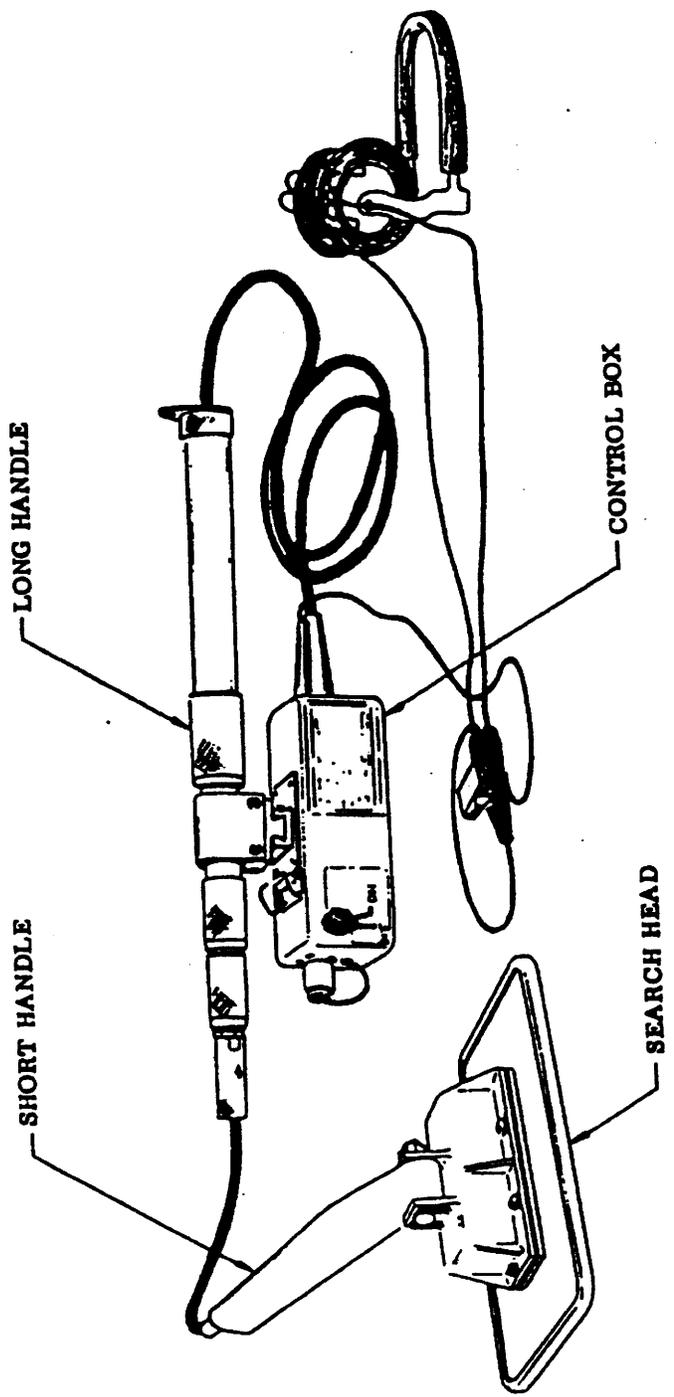

Figure 2-1. Mine Detector (Before Assembly)
(1) To a large extent, the mine detector, as contained in the carrying case, is pre-assembled as shown in figure 2-1. The short handle is attached to the search head, as is the control box to the long handle.
(2) Remove the following items from the carrying case: The search head with short handle attached, the long handle with control box attached, and one of the two batteries provided with the equipment. If the carrying strap is to be used, remove it also from the carrying case. Proceed to set up the equipment as follows.